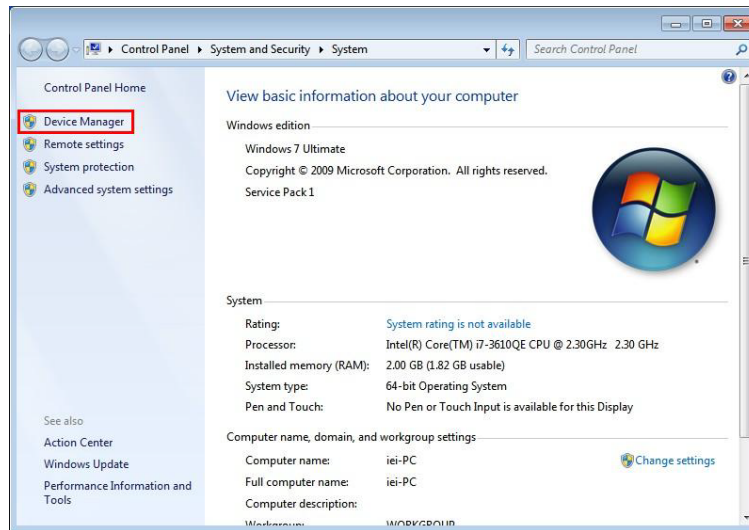

Figure 7-13: System Control Panel
Step 2: The system control panel window in Figure 7-13 appears.
Step 3: Click the Device Manager link (**Figure 7-13**).